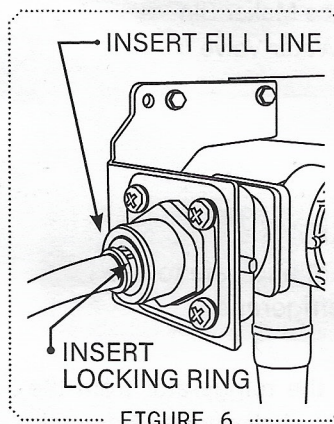

FIGURE 6
21. Remove the plastic locking clip on the quick-connection valve. Grasp the other end of the plastic tube and push it firmly into the quick-connection on the valve until it bottoms out, then insert the plastic clip onto the connector to secure the pipe. See Figure 6.